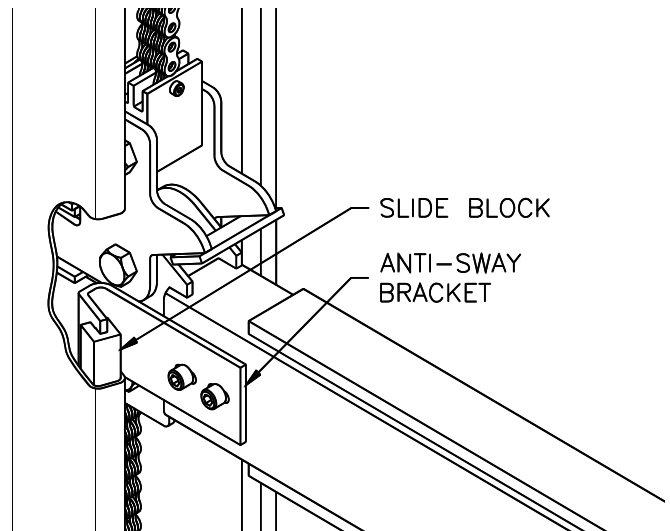

Fig 19 – Anti-Sway Brackets
33) Raise lift to comfortable height and install anti-sway bracket assemblies to guide the crossbeam ends centered in the columns, Fig 19.